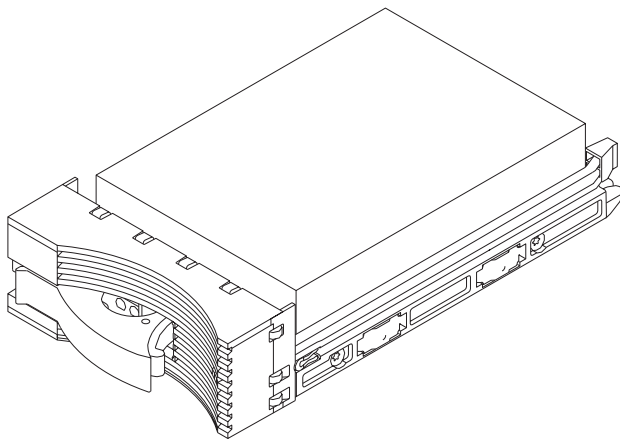

Figure 27. Placing a Disk Drive Module into a Safe Position
Step 14. Refer to Figure 27.
Step 15. Lay down the module as shown. In this position, the module rests on four supports (not visible in Figure 27).